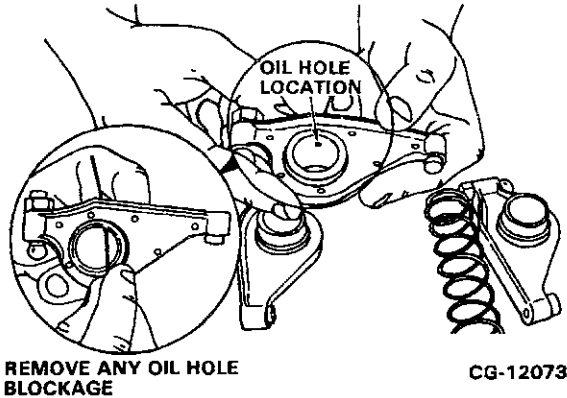

Figure 5.6. Inspect Rocker Arm Oil Hole for Blockage
- If the rocker arms are within specifications, they may be reused. Prior to assembly, assure the oil hole in the rocker arms and bushings is open by running a wire through the oil hole. Remove any blockage before reassembly. Refer to Figure 5.6.